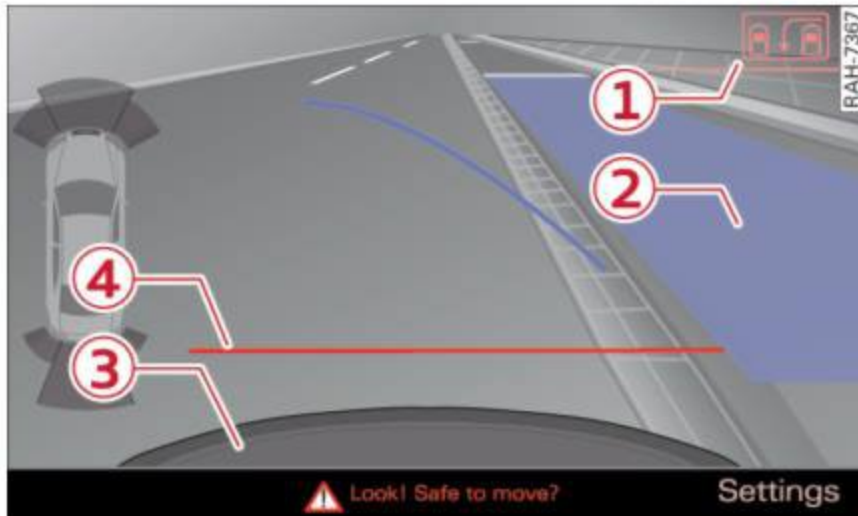

Fig. 116 MMI Display: blue surface in the parking spot
- ▶ Press the **Mode** ⇒ *fig. 116* ① control button on the MMI control console. Parking mode 2 appears.
- ▶ Back up in reverse gear and align your vehicle so that the blue area ② borders on the rear end of the vehicle or on the parking spot line. The blue area represents an extension of the vehicle's outline by approximately 16 ft (5 m) to the rear. The long side of the blue area should